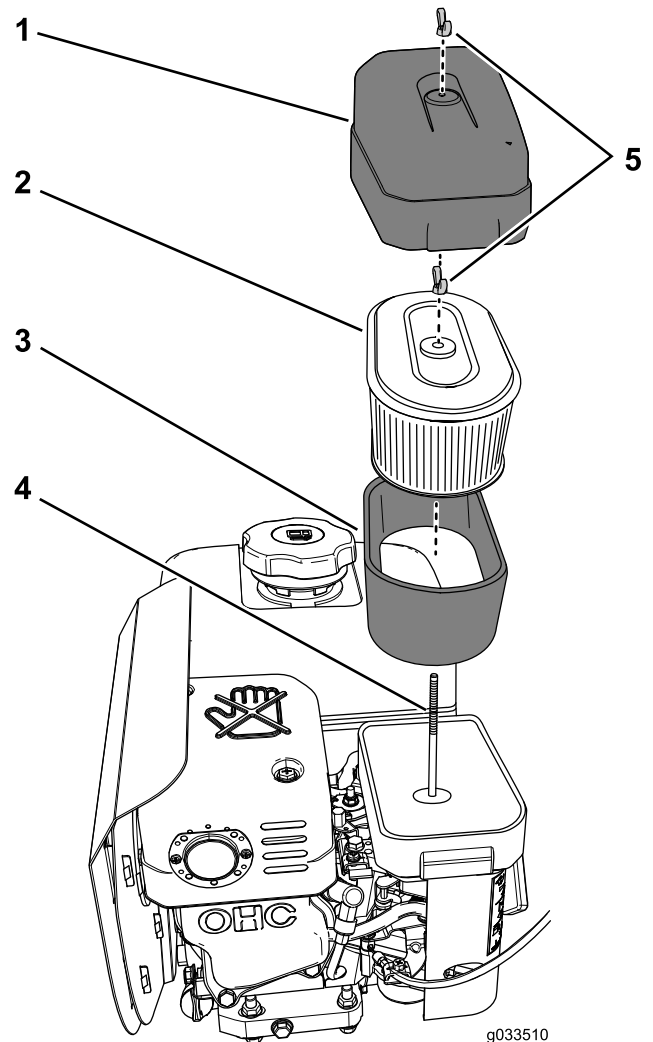

Figure 58
2. Clean around the air cleaner to prevent dirt from getting into the engine and causing damage (Figure 58).
3. Rotate the wing nut that secures the air-cleaner cover counterclockwise and remove the air-cleaner cover (Figure 58).
4. Rotate the wing nut that secures the paper and foam-filter elements counterclockwise and remove the filter elements from the hold-down rod (Figure 58).
5. Carefully pull the foam element off the paper element (Figure 58).
1. Inspect the element for tears, an oily film, or damaged (Figure 58).
1. Carefully slide the foam-filter element onto the paper-filter element (Figure 58).
2. Align the hole in the top plate of the paper-filter element with the hold-down rod of the carburetor (Figure 58).
3. Secure the filter elements to the carburetor with the wing nut (Figure 58) that you removed in step 4 of Removing the Foam and Paper Elements (page 51).
4. Align the hole in the air-cleaner cover with the hold-down rod (Figure 58) and secure the cover to the rod with the wing nut that you removed in step 3 of Removing the Foam and Paper Elements (page 51).